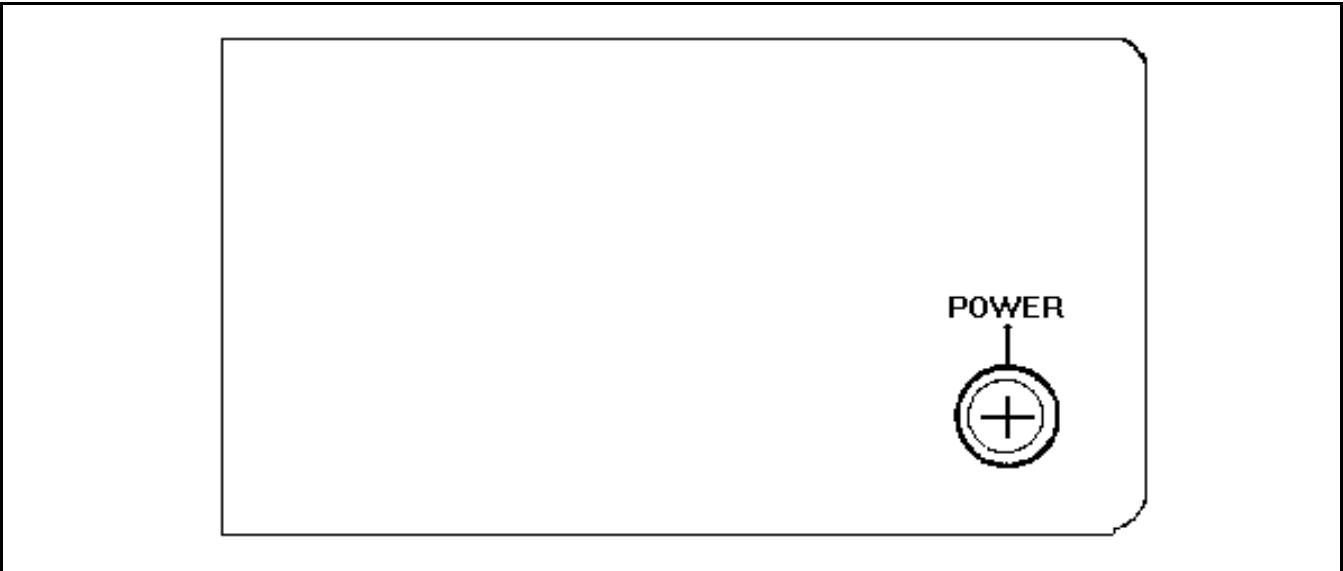

Figure 4 - Control Panel with Single LED Power Indicator
1. **Standard Desk Top Station, without Options** - The standard station has only a single red LED to indicate when the power supply is ON (see Figure 4).